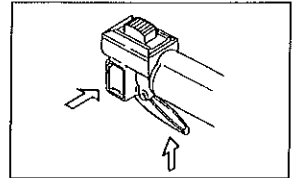

Fig. 4
4. Open throttle halfway and lock it by the button. (Fig. 4)